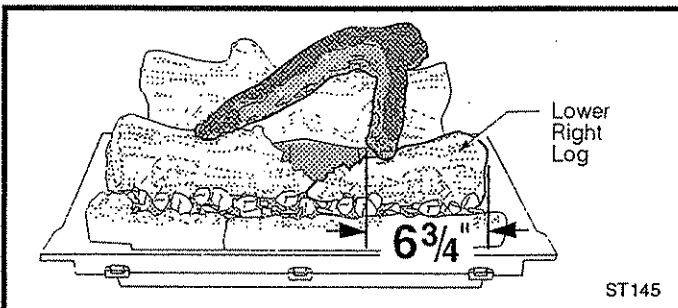

Fig. 17 To confirm correct placement, check the dimension from the right edge of the lower Right Log to the inside edge of the right branch, Upper Log.
8. Engage the Upper Log (6) with the anchor knob on the Rear Log and adjust its position so that the right branch is 6 $\frac{3}{4}$ " away from the end of the lower right log. (Fig. 17)